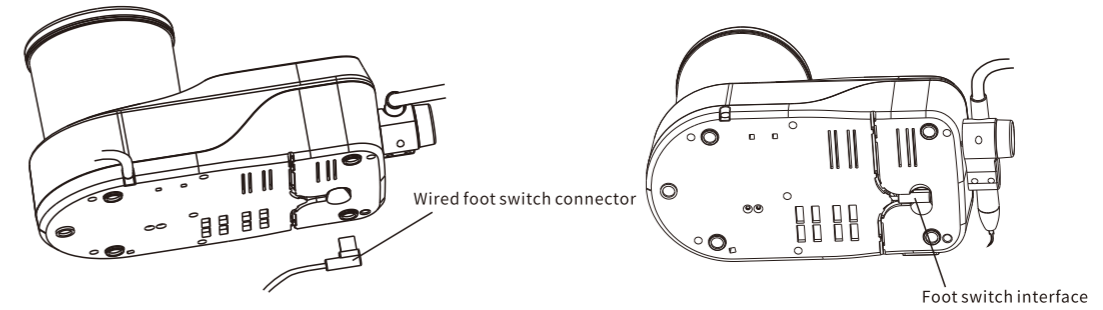

Figure 3 Schematic Diagram of Connection between Wired Foot Switch and Main Unit
- 3) Install the battery into the wireless foot switch, or plug the wired foot switch into its socket (See Figure 7, Figure 3).